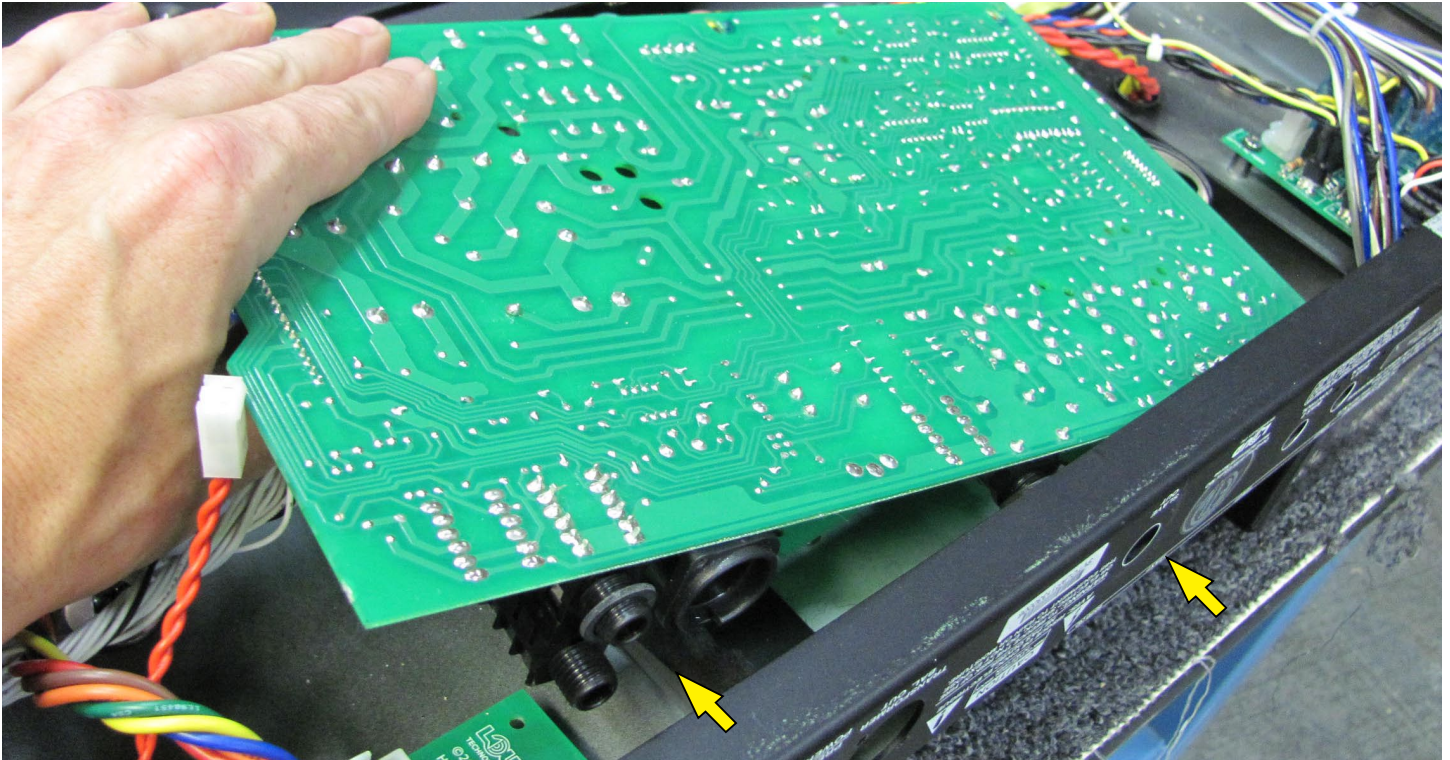

Figure 14a
14. Now carefully lift the PCB slightly back and up to clear the jacks and get access to the tube cable to be disconnected. As seen in Figure 14a. **NOTE!** there are three washers on the 1/4" jacks and two lock washers on the bias pots that you should take care not to loose.